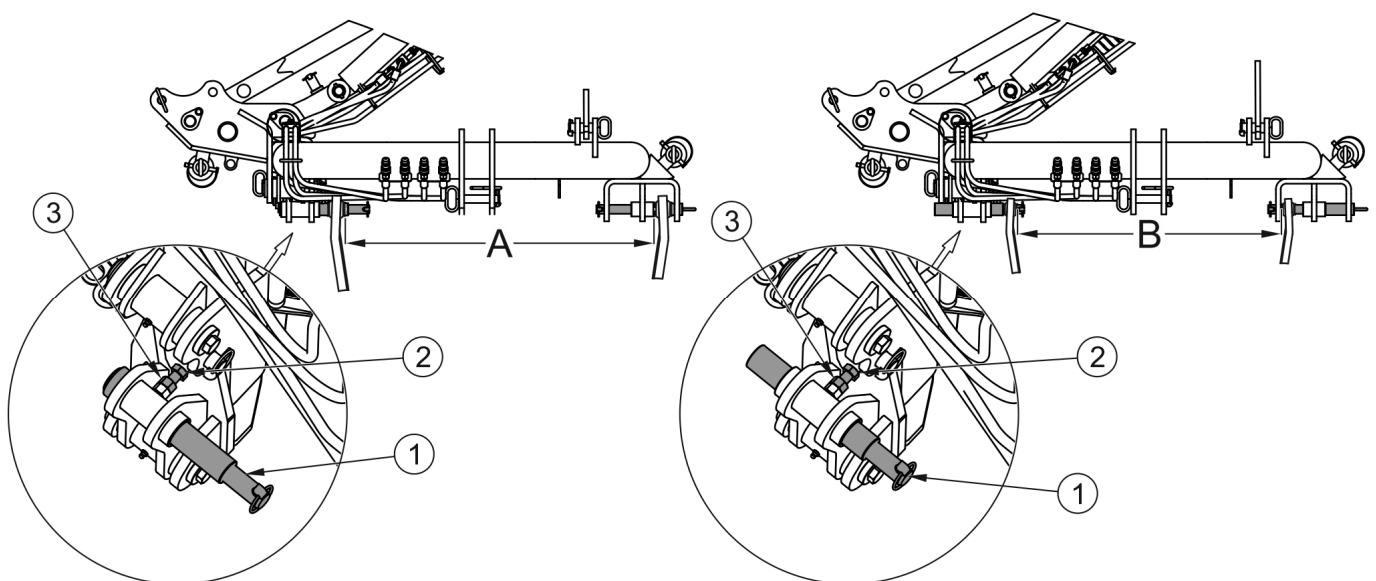

FIGURE 4.3 Adjustment of lower pins of the mower's linkage
The lowers pin (1) of the mower linkage enables adjustment of spacing (FIGURE 4.3). To change spacing of linkage pins:
- loosen lock nut (3),
- move pin (1) to the right or the left to obtain the required spacing,
- block pin position with retaining bolt (2) and lock nut (3).